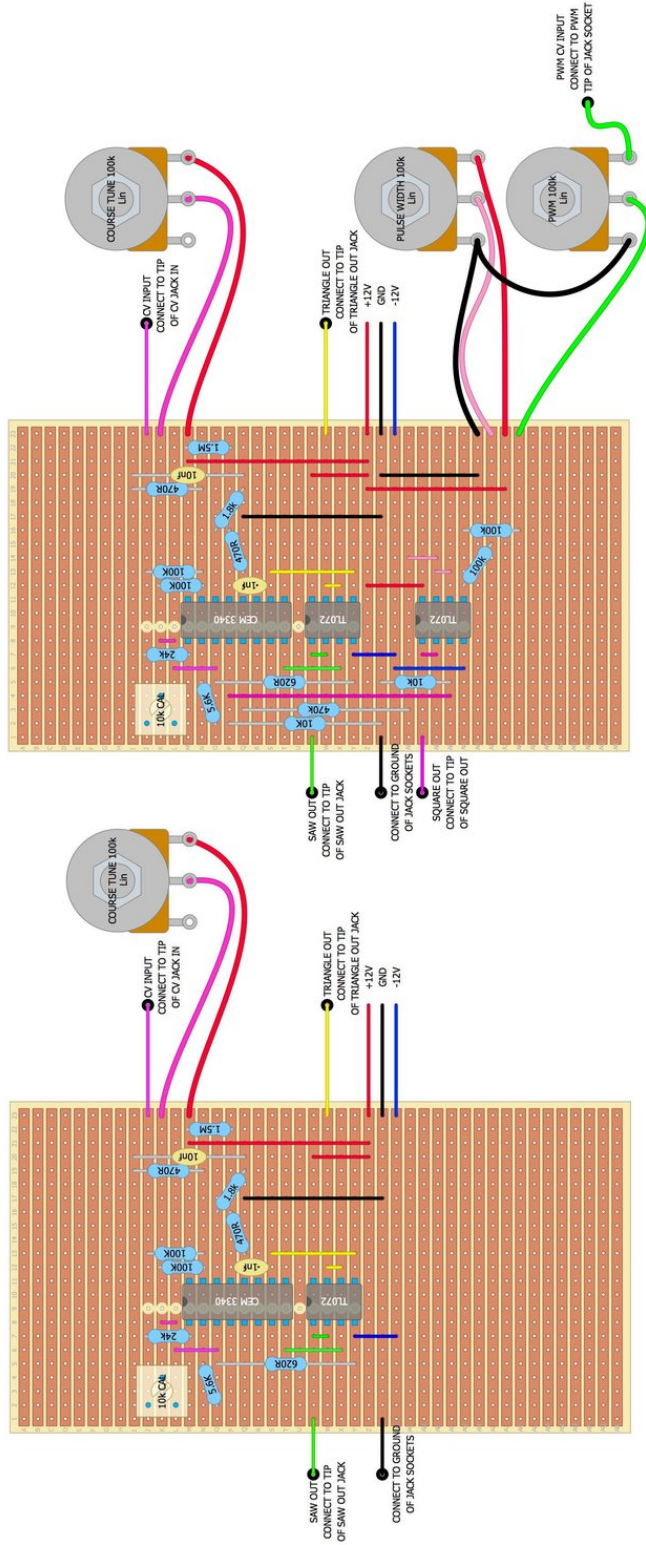

Figure 11: VCO of Sam Battle (Look Mum No Computer)
¹¹Stripboard in appendix - figure 11
- Figure 11: <https://www.lookmumnocomputer.com/projects#/cem-3340-diy-simple>, 19.10.2019.